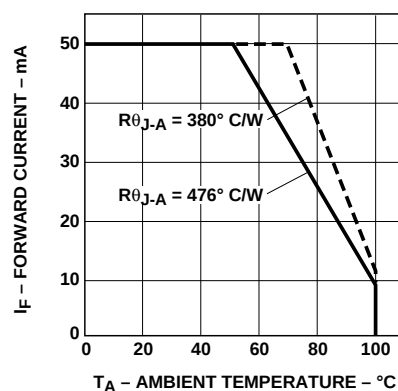

Figure 4. Maximum Forward Current vs. Ambient Temperature for HLMA-/HLMT-QL00/QH00/PL00/PH00. Derating Based on $T_{J\text{MAX}} = 110^{\circ}\text{C}$.
3. Derate linearly as shown in Figure 4.